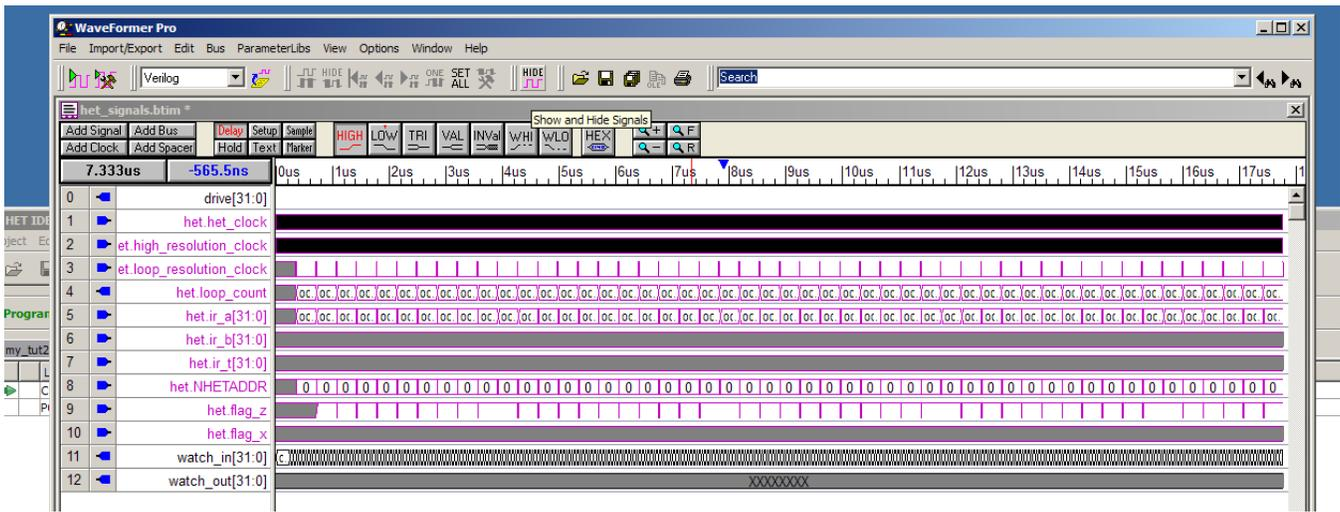

Figure 21. Result of Simulation
- Run the simulation for 50 loops, then switch to the Waveform Viewer and zoom so that the full simulation result is visible. You should see a waveform similar to Figure 21.